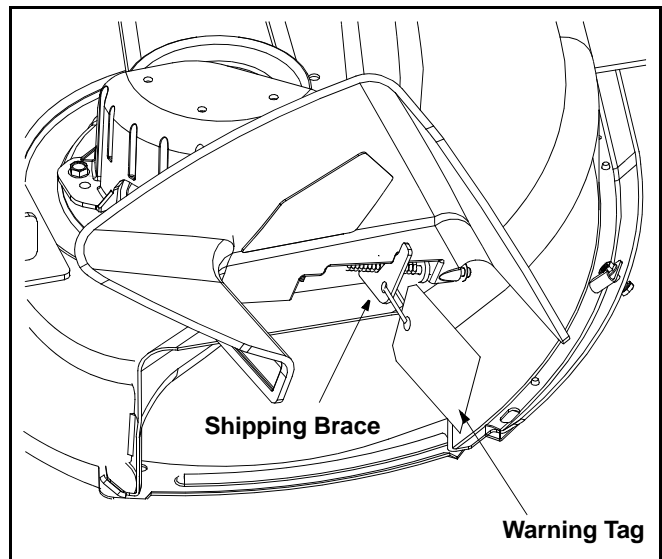

Figure 3
- Locate the shipping brace and accompanying warning tag found on the right side of the mower, between the discharge chute and the cutting deck. See Figure 3.